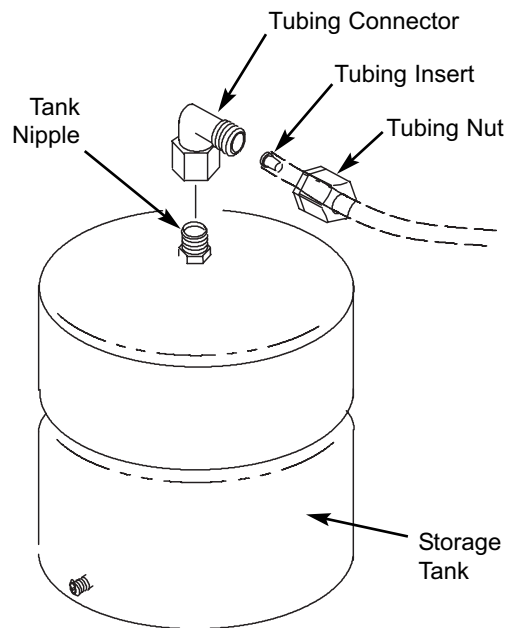

FIG. 14
1. Apply of thread sealing tape (2 wraps clockwise) to the threads on the nipple at the top of the tank. See Fig 14.
2. Locate the tubing connector. See Fig. 14. Tighten the tubing connector onto the tank nipple 7-8 full turns, being careful not to cross thread or overtighten.
5. Connect yellow tubing to tank connector. See Figs. 14 and 25.